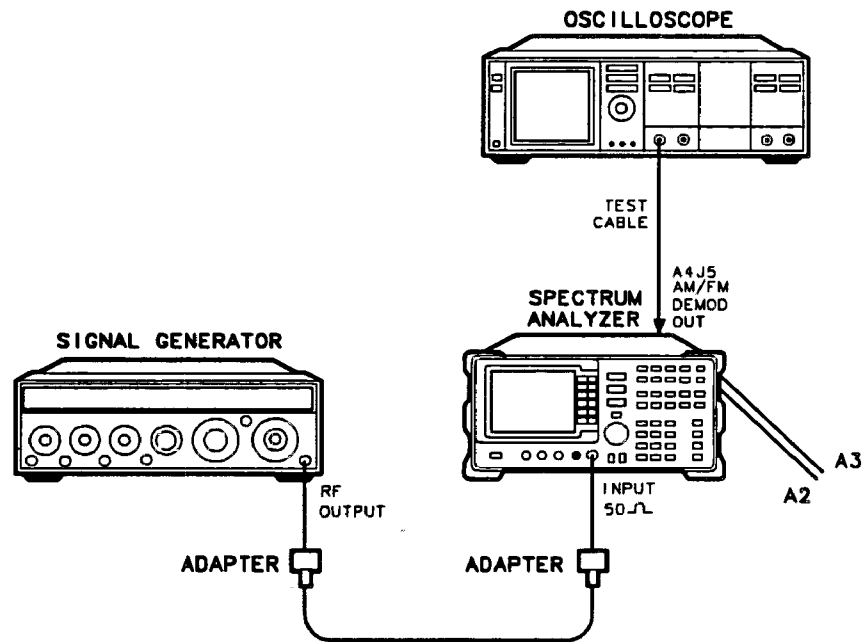

Figure 2-15. Demodulator Adjustment Setup
1. Set the HP 8562A/B **LINE** switch OFF. Place the analyzer in the service position as illustrated in Figure 2-15. Disconnect W28 from A4J5.